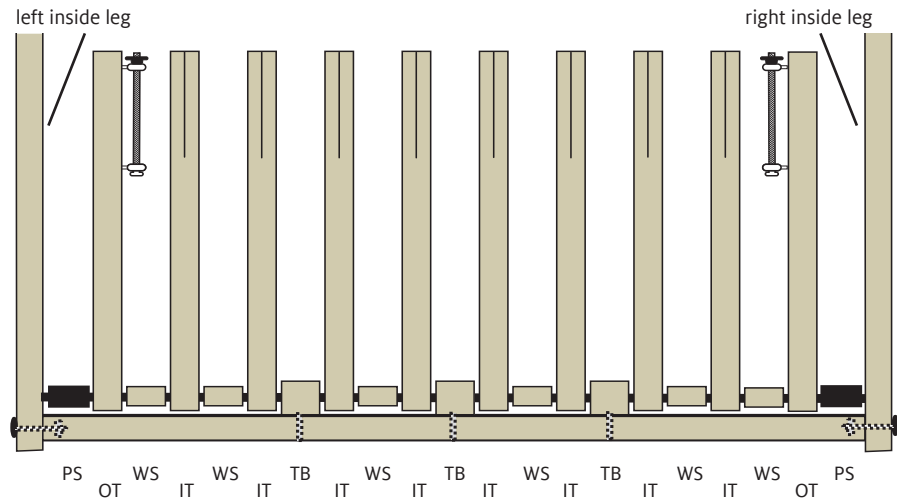

FIGURE 5: TREADLE ASSEMBLY
11. Using a #2 Phillips screwdriver, remove the 3 screws attaching the treadle blocks (**TB**) to the treadle support (Figure 5). Remove the metal treadle bar from the treadle support. Remove all parts from the metal treadle bar, saving the plastic spacers (**PS**), treadle blocks (**TB**), and wooden spacers (**WS**) for the next step.
12. Install the new height extender treadles on to the metal treadle bar with the parts saved from Step 11. Parts go in the following order (from left to right of the loom front, shown in Figure 5, page 4): PS, OT, WS, IT, WS, IT, TB, IT, WS, IT, TB, IT, WS, IT, TB, IT, WS, IT, WS, OT, PS.